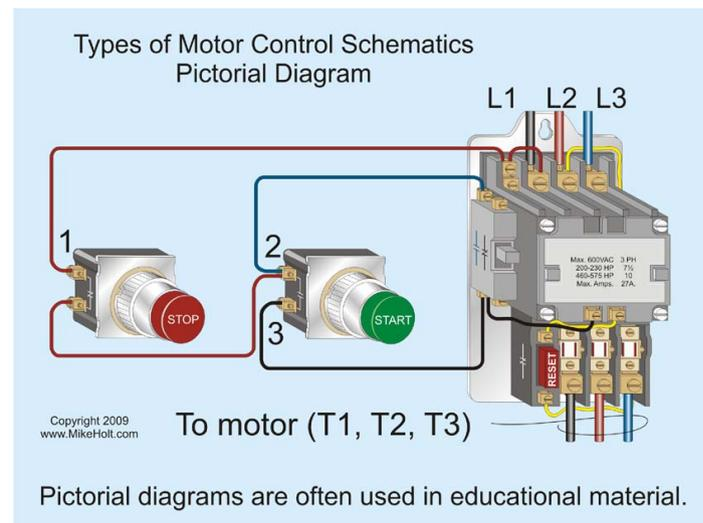

Figure 1-8
(3) Pictorial Diagrams (Figure 1-8)